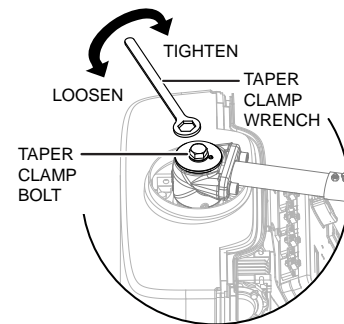

Figure 2. Taper Clamp Bolt and Taper Clamp Wrench
3. Loosen the taper clamp (Figure 2).